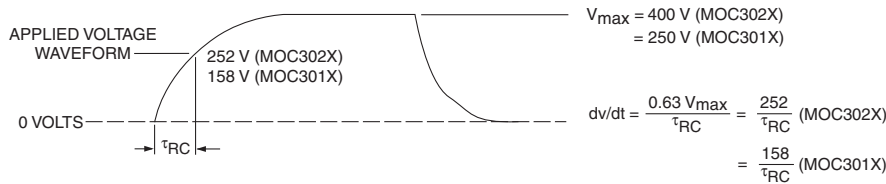

Figure 5. Static dv/dt Test Circuit
2. This is static dv/dt. See Figure 5 for test circuit. Commutating dv/dt is a function of the load-driving thyristor(s) only.
Fig. 5 dv/dt vs. Temperature